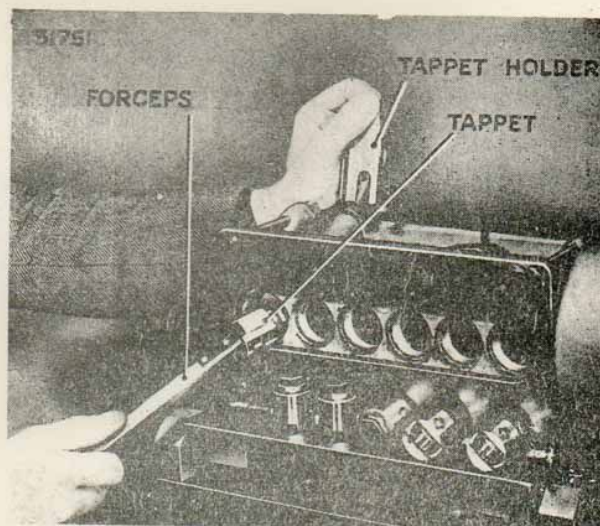

FIG. 24. REMOVING TAPPET ASSEMBLY.
8. Push up the tappet assembly until it is possible to withdraw the tappet holder, after which the tappet assembly, lower spring plate, plunger spring, upper spring plate and plunger can be withdrawn through the base (Fig.24 ).